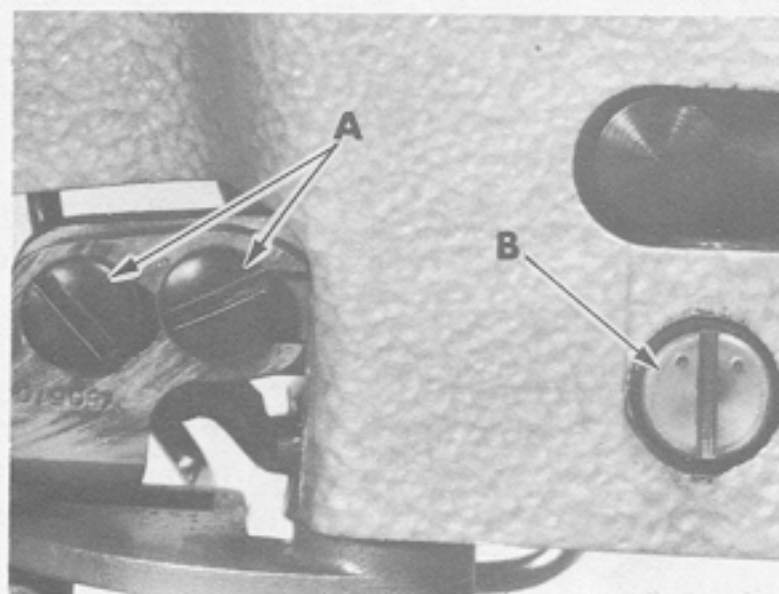

Fig. 20
As the needle travels from right to left, the feed dog should contact feed plates when point of needle is flush with right side of cloth opening behind needle. Feed dog should depress feed plates approximately the depth of one full tooth. The feed dog is adjusted by means of two screws (A, Fig. 20) on the right side of the head. The slot in eccentric stud (B) should be vertical when the feed bar is all the way towards the operator and the punch marks at the end of the slot in stud should be up.